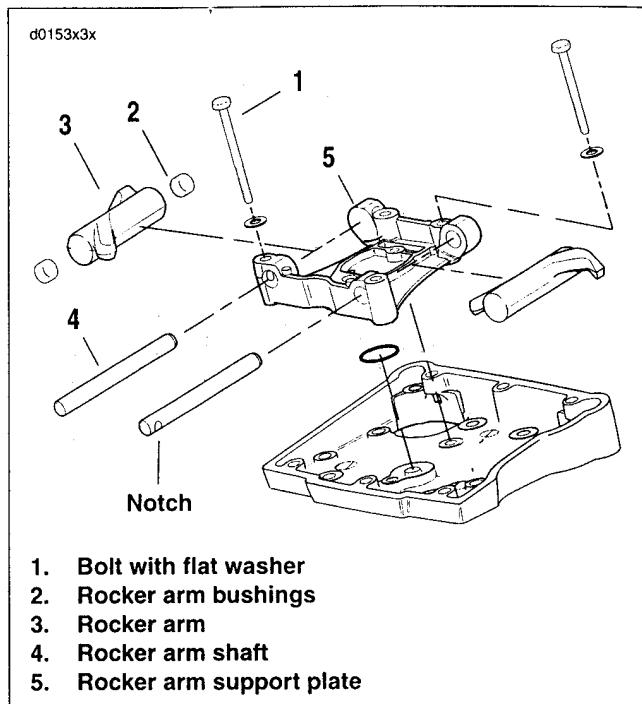
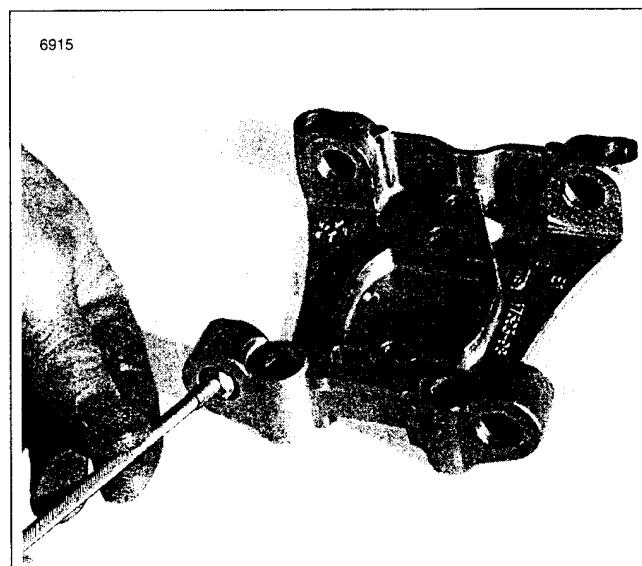

Figure 3-79. Rocker Arm Assembly
Figure 3-80. Checking Support Plate Bore
1. See Figure 3-79. Remove four bolts with flat washers (1) from the rocker arm support plate (5). The bolts on the push rod side (right) are notched to lock the rocker arm shafts in position.
2. Using a hammer and brass drift, tap left side of rocker arm shafts (4) so that the notched ends exit the rocker arm support plate (5) first. Mark the shafts so that they are installed in their original locations at time of assembly.
2. See Figure 3-79. Check rocker arms (3) for uneven wear or pitting where contact is made with the valve stem tips. Check for concave wear where rocker arms contact the push rod ends. Replace rocker arm if excessive wear is found at either location.
3. Verify that oil holes in rocker arms and rocker arm support plate (5) are clean and open.
4. Inspect rocker arm shafts (4) for scratches, burrs, scoring or excessive wear. Replace as necessary.
- a. See Figure 3-80. Measure the inside diameter of the rocker arm support plate bore.